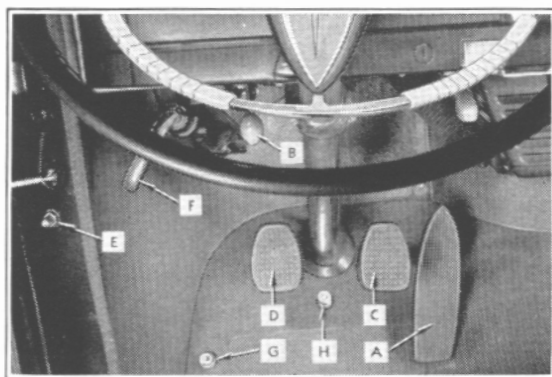

Figure 5
ACCELERATOR PEDAL (A), Fig. 5, controls the speed of the car. *Never pump the accelerator when starting the engine as it will result in flooding.* When starting a cold engine, the accelerator pedal should be pressed down one-half way and released *slowly*. With a warm engine, depress the accelerator pedal
BONNET LOCKING HANDLE (B), Fig. 5, should be pushed fully forward to unlock the bonnet. Pull handle back all the way to lock it.
BRAKE PEDAL (C), Fig. 5, hydraulically operates brakes on all wheels. In event of disablement of the hydraulic system, continued pressure on the pedal automatically applies the brakes on the rear wheels mechanically.
CLUTCH PEDAL (D), Fig. 5, should be depressed fully to floor board when starting the engine and when shifting gears. When the car is equipped with Hudson Drive-Master or Vacuum Drive operation of the clutch is by power; but when starting the engine, particularly when it is cold, depressing the clutch pedal manually will disconnect the load of the transmission gears on the starting motor and facilitate starting.
COURTESY LAMPS, at bottom of door lock pillar, are standard on all models except 20 and 28. These lamps are lighted by switches (E), Fig. 5, operated by the doors when they are opened, day or night.
HAND BRAKE LEVER (F), Fig. 5, should be applied by pulling straight back *and at the same time depressing the brake pedal*. Release lever by turning handle $\frac{1}{4}$ turn to right and pushing it downward as far as it will go.
HEADLAMP FOOT SWITCH (G), Fig. 5, controls country (upper) and traffic (lower) beams. When meeting oncoming traffic and headlamp beam indicator shows red, depress foot switch once and release for lower beam. Pressing switch the second time restores beam to upper position.
RADIO FOOT SWITCH (H), Figure 5, (optional equipment). Press lightly to reduce volume and press hard to change station.